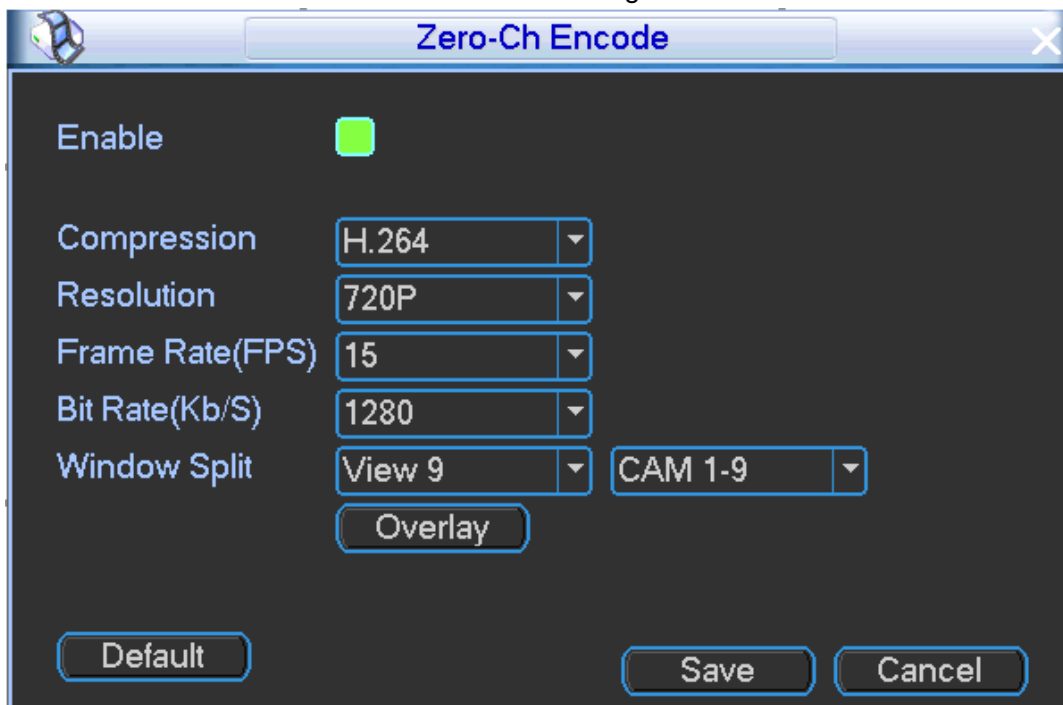

Figure 4-17
- Step 1 On the preview interface, right click mouse and then select zero-channel encode. Enter zero-channel encode interface. See Figure 4-17.